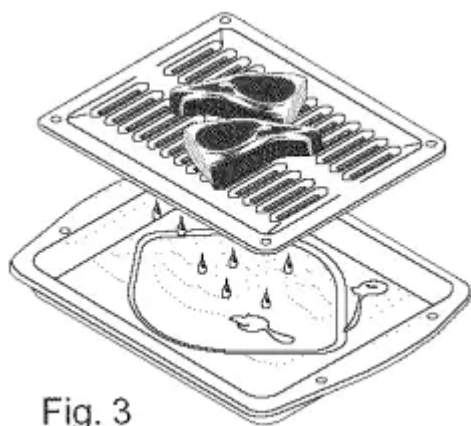

Fig. 3
**Note:** The broiler pan and the insert allows grease to drain and be kept away from the high heat of the broiler (See Fig. 3). DO NOT use the pan without the insert. DO NOT cover the insert with foil; the exposed grease could ignite.